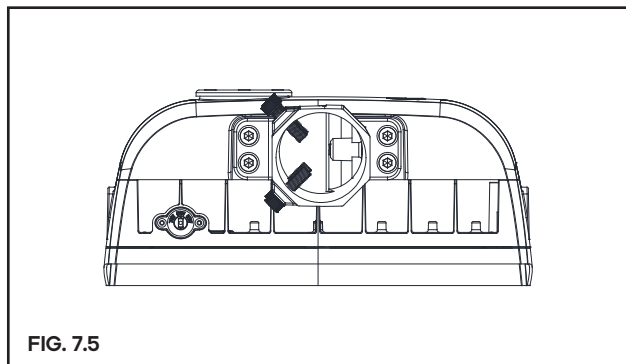

FIG. 7.5
Step 2: Adjust the handle to the desired Angle by turning it left and right, as shown in the picture. (Figure 7.5)